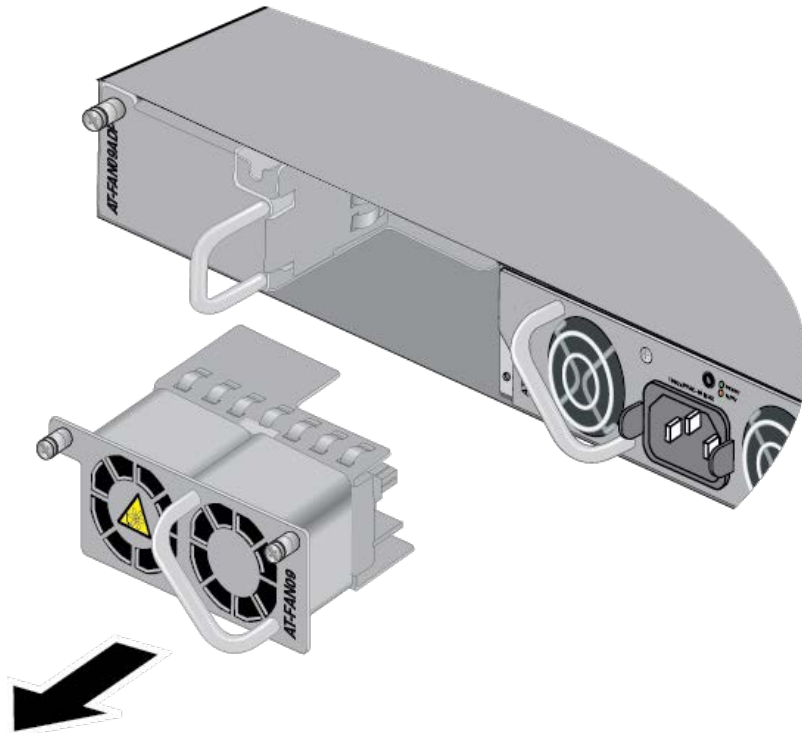

Figure 31. Removing the AT-FAN09 Module
4. Carefully remove the AT-FAN09 Module from the switch. Refer to Figure 31.